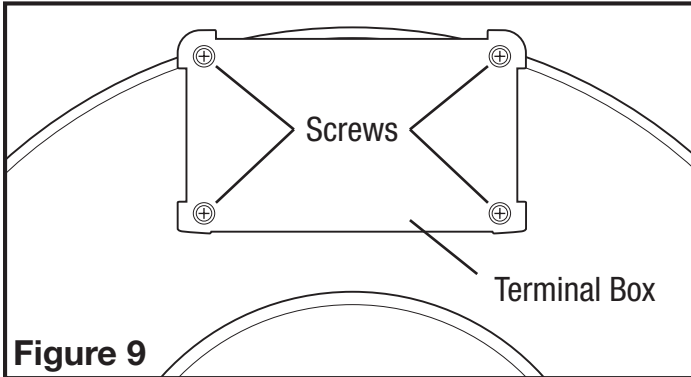

Figure 9
- Remove the screws securing the terminal box cover plate located on the side of the motor (**Figure 9**).